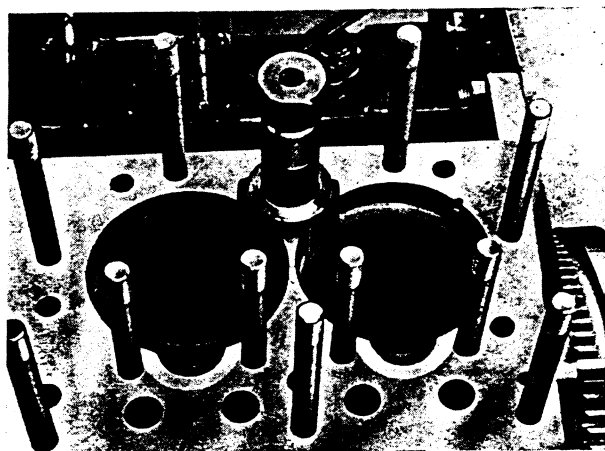

FIG. 136.
4. Hold liners in position by means of Retainers FT.112 secured by adjustable Retainers FT.3B over appropriate cylinder head studs as shown in Fig. 136.